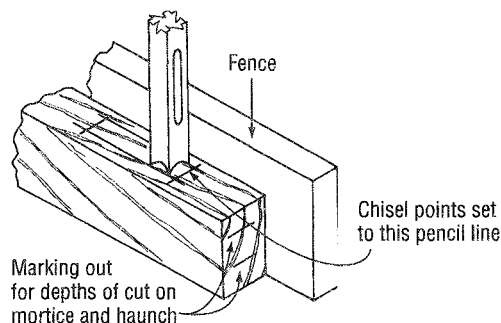

Fig. 4.25 Setting chisel from the fence.
3. Bring the chisel to within 1 mm of the top of the timber and turn the in and out hand wheel so that the back of the chisel is level with the marked line on the timber (**Fig. 4.25**).